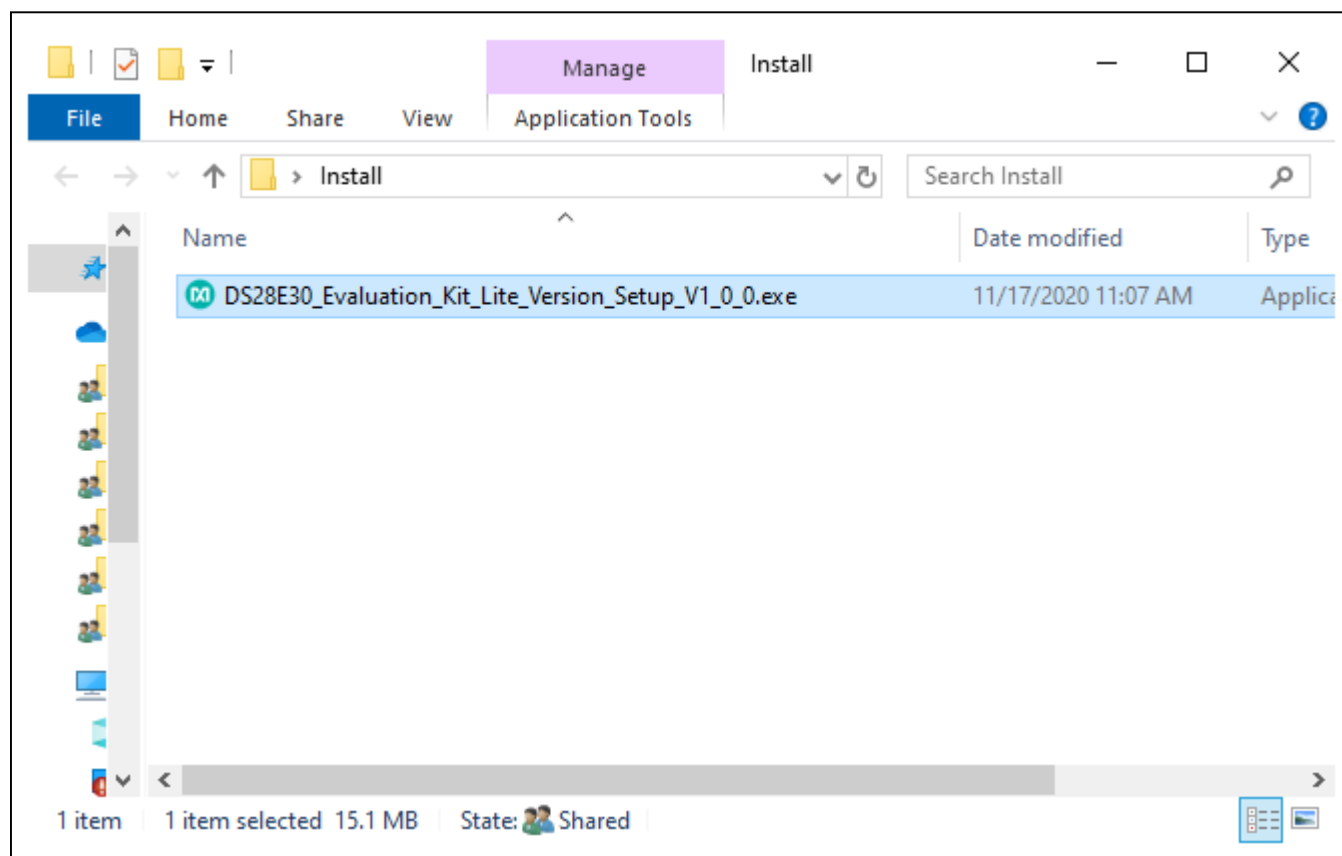

Figure 1. File Viewer
- 2) In a file viewer (Figure 1), double-click the **DS28E30_Evaluation_Kit_Lite_Version_Setup_V1_0_0.exe** file to begin the installation.